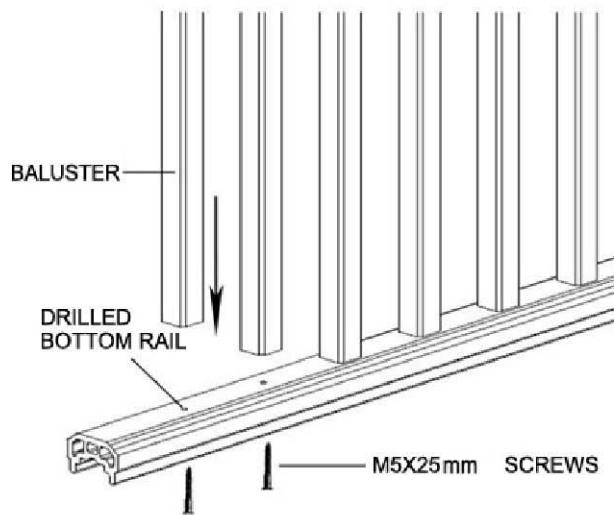
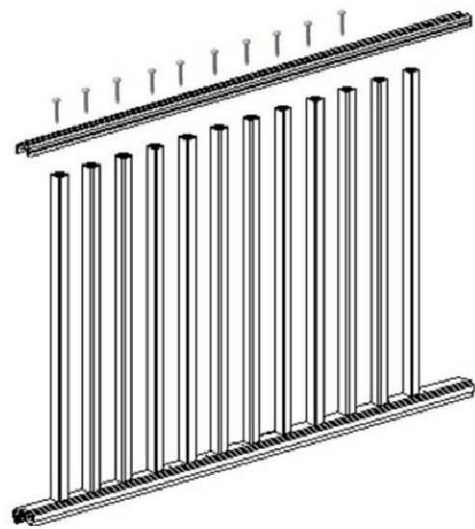

FIGURE 6
FIGURE 7
2. Align the ends of the baluster with the pre-drilled holes in the bottom rail; using the M5\*25mm stainless screws, fasten the ends of balusters to the bottom rail first, (As shown in Figure 6) then fasten the other ends of balusters to the retainer through pre-drilled holes. As shown in Figure 7.